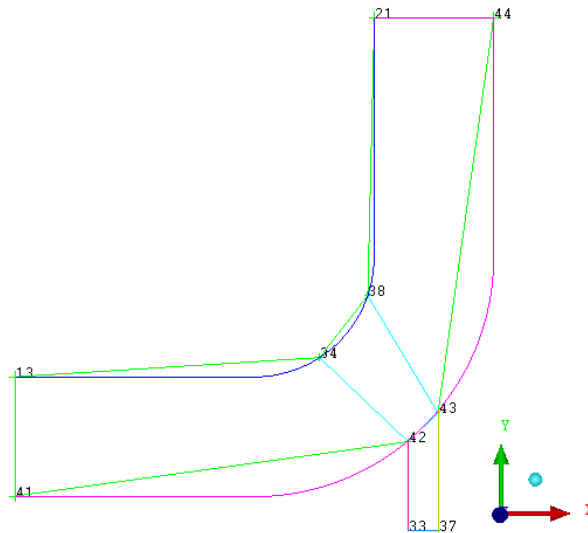

Figure 14: Moving Rest of the Vertices to Their Position
2. Move the remaining vertices to their appropriate positions on the geometry. See Figure 14.